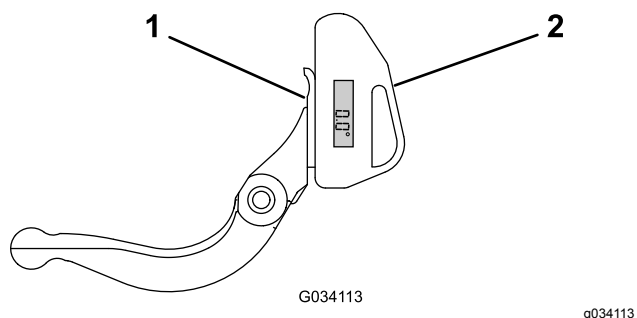

Figure 28
1. Place the angle indicator on the bottom side of the bedknife as shown in Figure 28.